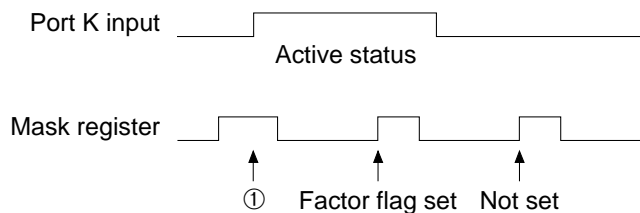

Fig. 3.9.4
For example, a factor flag is set with the timing of ① shown in Figure 3.9.4. However, when clearing the content of the mask register with the input terminal kept in the high status and then setting it, the factor flag of the input interrupt is again set at the timing that has been set.